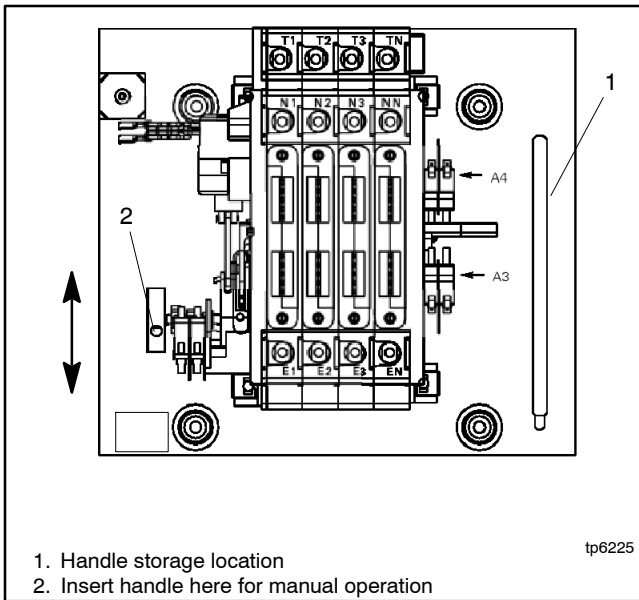
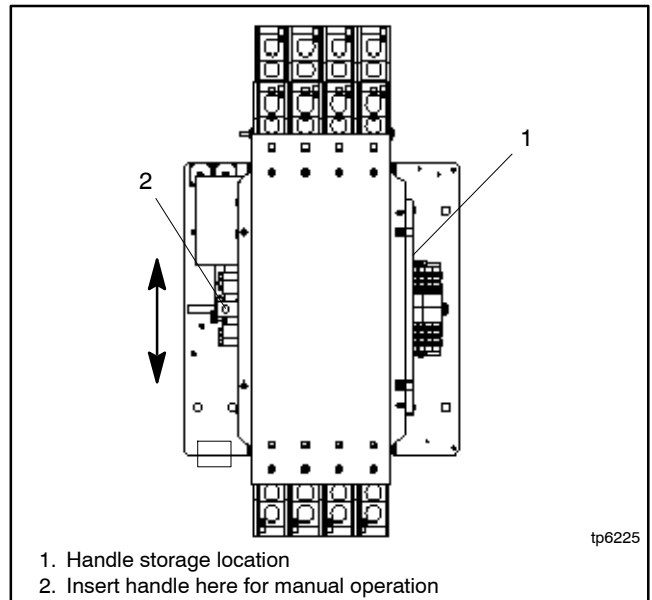
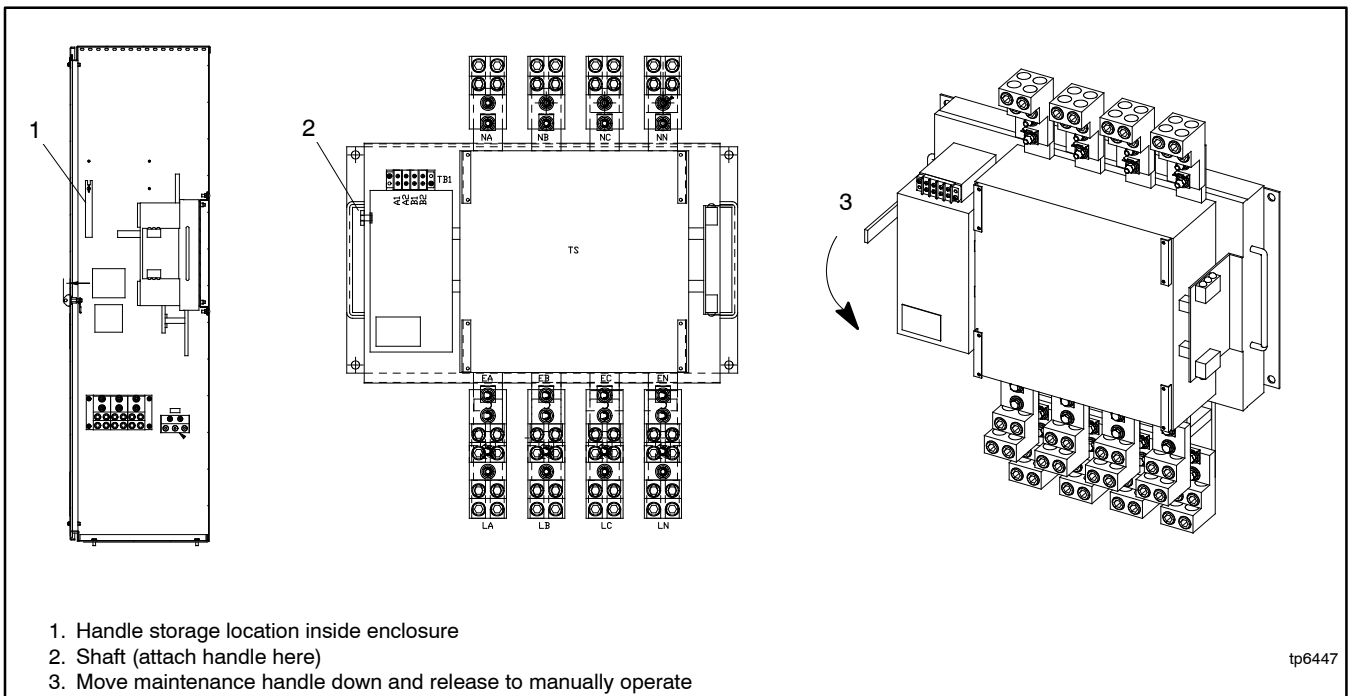

Figure 2-3 Manual Operation, 40–260 Amp Standard-Transition Switches
Figure 2-4 Manual Operation, 400–600 Amp Standard-Transition Switches
Figure 2-5 Manual Operation, 800–1000 Amp Standard-Transition Switches
2. Remove the maintenance handle from its storage location inside the enclosure. See Figure 2-3 through Figure 2-5.
- a. 40–600 Amp switches: Insert the maintenance handle into the hole in the shaft on the left side of the operator as shown in Figure 2-3 or Figure 2-4.
- b. 800–1000 Amp switches: Slide the maintenance handle over the square shaft on the left side of the operator as shown in Figure 2-5.